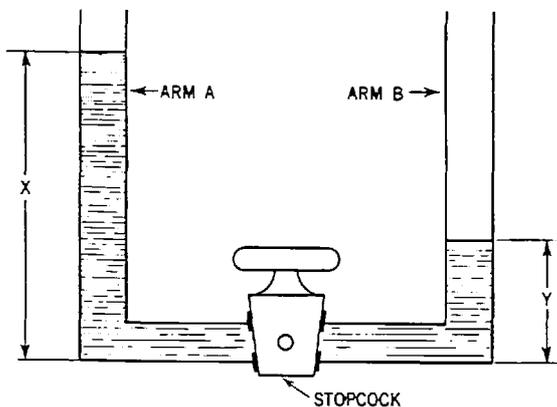

Fig. 30-7. Diagram illustrating the fact that it is the difference of pressure which causes a fluid to flow through a tube.
To get an idea of *pressure*, let us consider a simple analogy. Assume we have a U-shaped tube with a valve or stopcock at the center (Fig. 30-7). Assume that the valve is closed. We now pour water into arm A to a height represented by X. Pour water into arm B to a height represented by Y. If the valve is now opened, the water will flow from arm A to arm B until X and Y are equal.
In Figure 30-7, the water in arm A can do no work until the valve is opened. Nevertheless, it represents a *potential* source of energy—that is, energy due to position. But the actual work is not done by the potential energy of the water in arm A, but by the *difference of potential energy* between the water in A and B.
**Current Depends on Both Electromotive Force and Resistance.** Refer to Figure 30-7. We measure the flow of water from one arm to the other in terms of quantity per unit of time. We say so many gallons flow past a certain point in a minute. Similarly, we measure the flow of electricity by the number of electrons that flow past a point on a conductor in one second.
What determines the amount of water per unit of time that flows through the valve in Figure 30-7? Obviously, it is the difference between the amounts of potential energy in the water in the two arms of the tube and the size of the opening in the valve (that is, the resistance the valve offers to the flow of water).